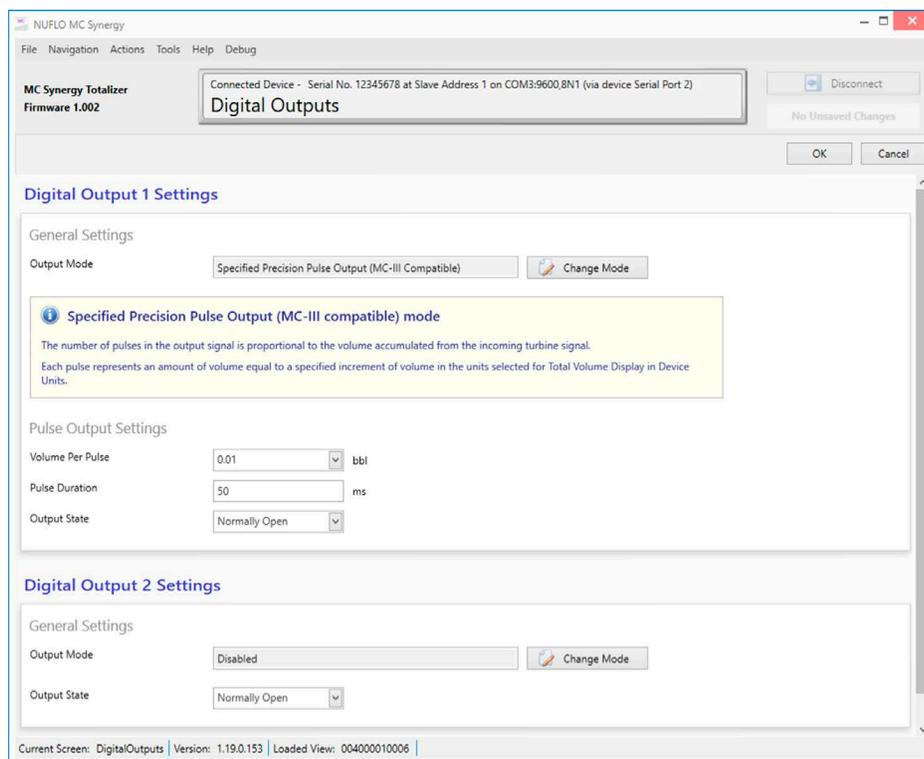

Figure 8.6—Specified Precision Pulse Output screen
- Specified Precision Pulse Output (MC-III Compatible). (Figure 8.6, page 75) Each pulse represents a specified increment of volume in the units selected for Total Volume Display in Device Units.